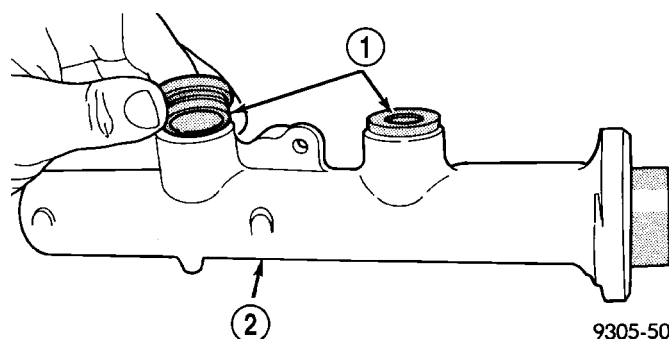

Fig. 69 Reservoir Sealing Grommets
(7) Remove the master cylinder housing-to-reservoir grommets (Fig. 69).
(8) For reassembly, (Refer to 5 - BRAKES/HYDRAULIC/MECHANICAL/MASTER CYLINDER - ASSEMBLY).
(1) Install new housing-to-reservoir grommets in master cylinder housing (Fig. 69).
(2) Lubricate brake fluid reservoir-to-grommet mounting area with clean brake fluid. Place reservoir in position over grommets. Seat reservoir into sealing grommets using a rocking motion while pushing down on reservoir.
(3) Make sure bottom of reservoir touches the top of both sealing grommets.